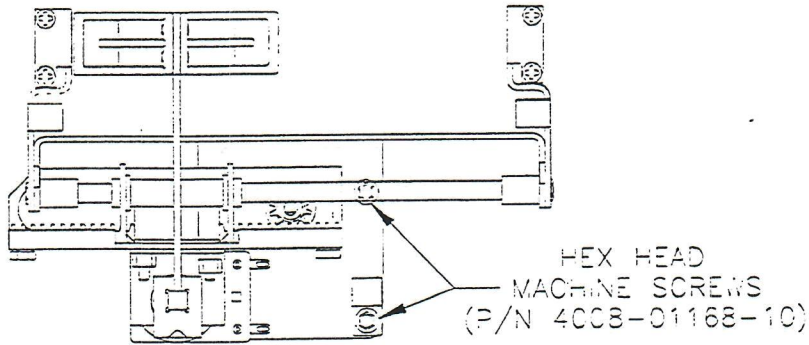

FIGURE 3
two RUBBER ISOLATORS (P/N 20-10121), (See Fig.3). If you have the condition represented by Figure 3, your assembly is **CORRECT**. If the two shafts are reversed, i.e. the shaft with the rubber isolators is closest to the rear of the mechanism, the mechanism will have to be disassembled and reassembled correctly.
3. With the mini playfield resting against the backbox, you will be able to see the underside of the mini playfield. Slide the COIL/SLIDE ASSEMBLY (P/N A-19070) all the way to the left hand side of the MINI PLAYFIELD ASSEMBLY(P/N A-18382). Do this manually. You will now be able to see two(2) HEX HEAD MACHINE SCREWS (P/N 4008-01168-10). Using an open ended wrench, box wrench, or nut driver, remove these two screws (See Fig. 3).
3. Now mount the EXTENSION BRACKET/OPTO TRANSISTOR ASSEMBLY back onto the MINI PLAYFIELD ASSEMBLY using the two (2) SHEET METAL SCREWS (P/N 4108-01004-06) supplied with the REPAIR KIT. (See Fig.3)